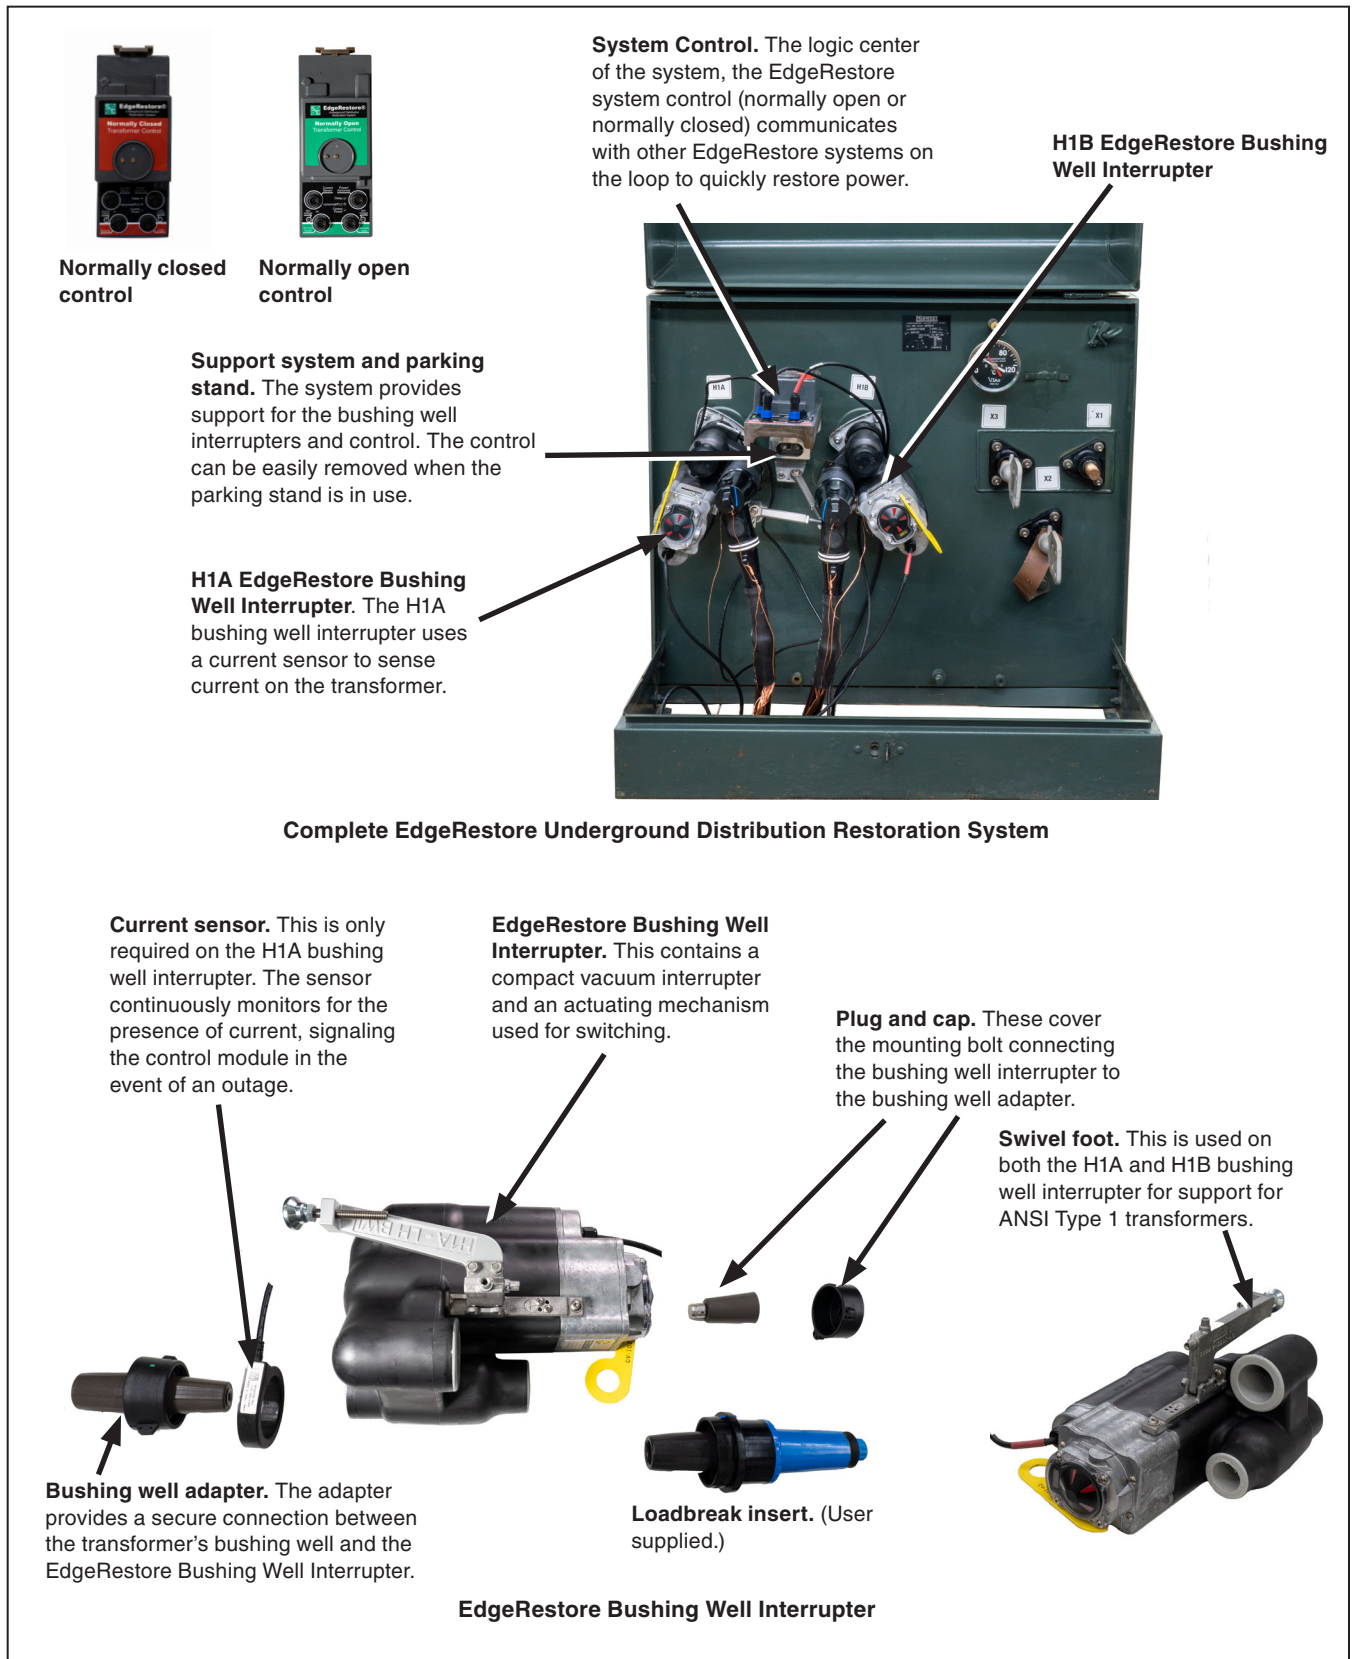

Figure 1. EdgeRestore Underground Distribution Restoration System Overview.
The EdgeRestore Underground Distribution Restoration System is installed in pad-mounted distribution transformers. The EdgeRestore systems will work together to isolate faults and restore service using peer-to-peer communications. Become familiar with the parts of the installation. A completed installation is shown in Figure 1 on page 7.
- STEP 3.** Clean the bushing well adapters for the H1A and H1B bushings with a soft cloth. The bushing well adapters are included in the installation kit. They look like loadbreak inserts but are shorter and gray. See Figure 1 on page 7.